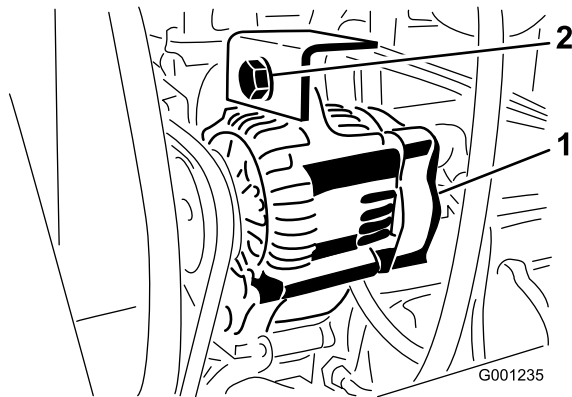

Figure 72
2. Loosen the mounting bolt for the alternator (Figure 72).
3. Increase or decrease the tension on the alternator belt and tighten the mounting bolt (Figure 72).